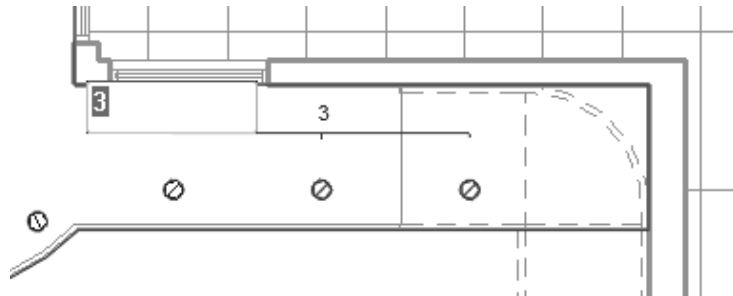

Figure 2–56
6. If the **Group and Associate** option is selected, you are prompted again for the number of items, as shown in Figure 2–56. Type a new number or click on the screen to finish the command.